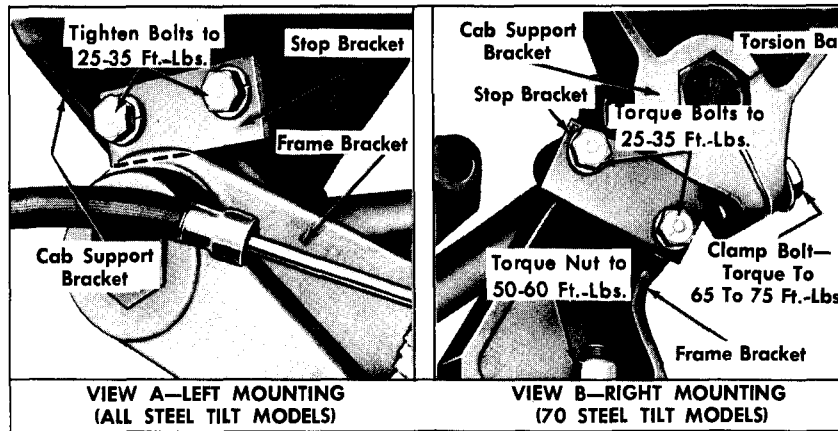

Figure 34—Cab Torsion Bar Stop Brackets Installed
4. Install cab stop brackets (if previously removed) to torsion bar cab and frame brackets as shown in figure 34. Torque attaching bolts to 35 to 50 foot-pounds. Make sure stop brackets are installed as shown.
6. Tighten bolt which clamps cab right mounting bracket to end of torsion bar (fig. 34) to 65-75 foot-pounds on series 70 or 100-110 foot-pounds on series 90 tilt cab models.